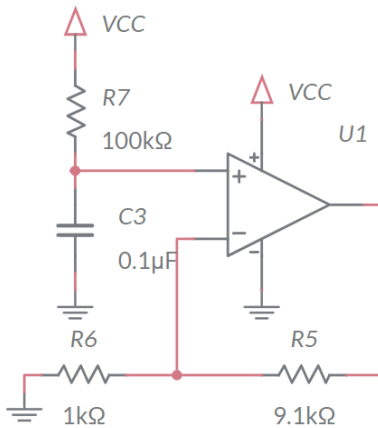

Figure 3: The Pseudo Ramp Generator circuit.
When plotted as a function of time, a ramp function has a constant slope measured as $\frac{\Delta V}{\Delta t}$. The term “Pseudo” is introduced into the name because the circuit to be built, shown in Figure 3, does not have a constant slope; it changes slightly as shown in Figure 1. To understand this further, let’s start the analysis of this circuit.
The analysis begins by recognizing the op amp configuration in Figure 3 is a non-inverting configuration. The resistors R5 and R6 form the feedback network. Note, the 9.1k resistor is formed from the parallel combination of 10k and 100k resistors. Why not just use a single 9.1k resistor? Two words, *inventory management* – it’s easier to manage the inventory of 1k and 100k resistors that are used in all sorts of PCBs, then it is to stock a wide variety of odd-ball resistor values that used just once.
1. Determine the gain of the non-inverting op amp in Figure 3.
2. Determine the time constant for the RC network on the non-inverting input of the op amp in Figure 3. Remember that no current flows into an op amp input.
So, the output of the op amp in Figure 3 is the familiar exponential charging of an RC circuit. But how on earth will this be used to generate the ramp shape shown in Figure 1? Well, if we limit the charging to the very beginning of the exponential function, then we may get a sufficiently close to a straight line. In order to do this, we will need to limit the charging of the capacitor in Figure 3. We will do this by periodically removing the charge off the capacitor using the same technique used in the Deboo Integrator.
Let's compare the exponential curve against a straight line using the rampVsCharge.xlsx spreadsheet posted on the Canvas page. When you open the spreadsheet, its contents will look like Figure 5. You need to complete two tasks with this spreadsheet. First, enter the equation for the charging capacitor in (R7 and C3 in Figure 3) the green cells. Second, adjust the value of Delta V in the orange cell to best match the charging capacitor.
- The **Time** values in column B are times in seconds. Note that the column spans 0us to 888us which is the charging time of the capacitor C3 in Figure 3. Each row is the Time column is Delta T larger than the row above it. The value of Delta T is set in cell C2. Don't change this value!